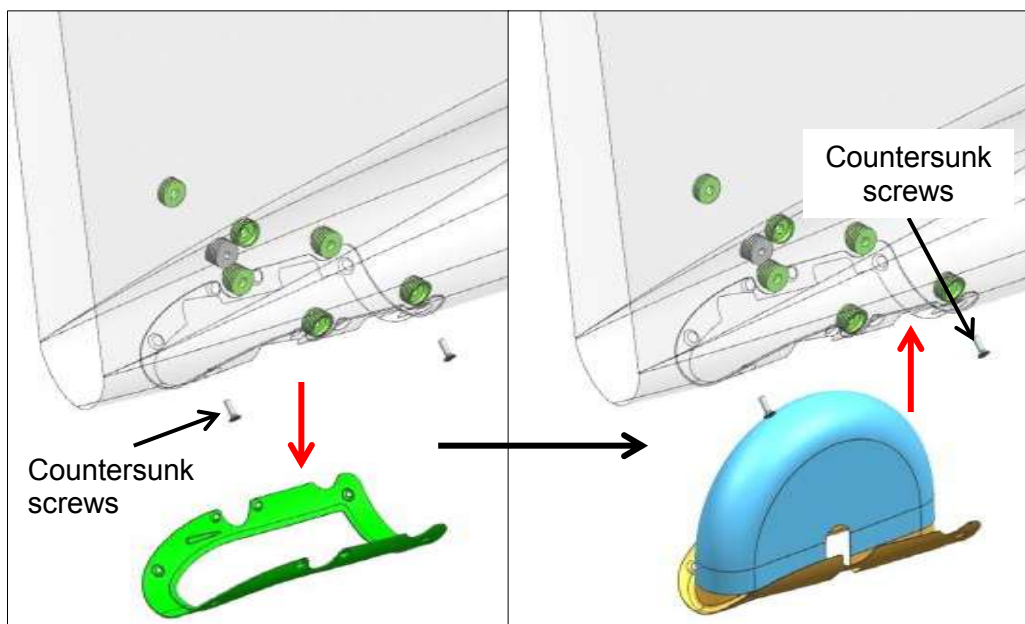

Figure 32-32: Installing 200x50 mud guard
3. Remove the tail wheel door frame by undoing the countersink screws securing the frame to the fuselage. Retrieve the screws for the mud guard (Figure 32-32).
6. Install the mud guard (Figure 32-28, Item 3) in the wheel well from below and secure using the screws retrieved from the tail wheel door frame in step 3 (Figure 32-32).